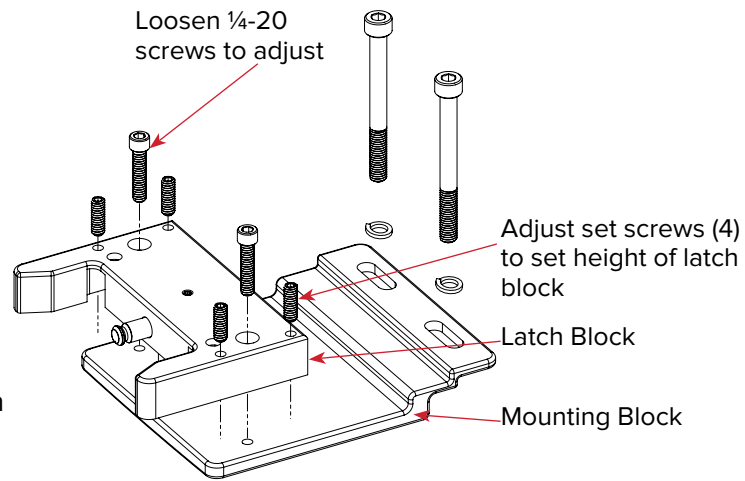

Fig. 13
- a. Begin by adjusting the height of the Latch Block on the existing CT, by loosening the Locking Screws (2) ¼-20 (Fig. 13).